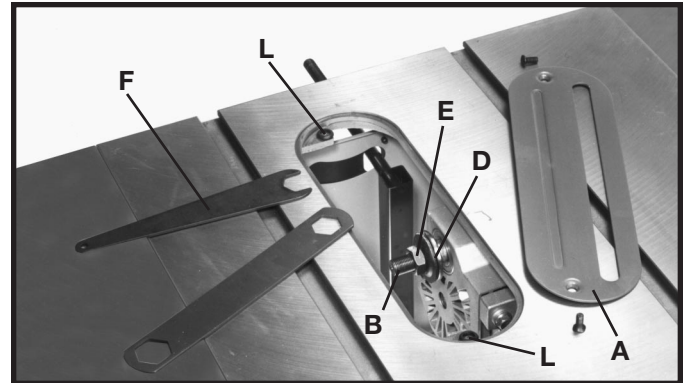
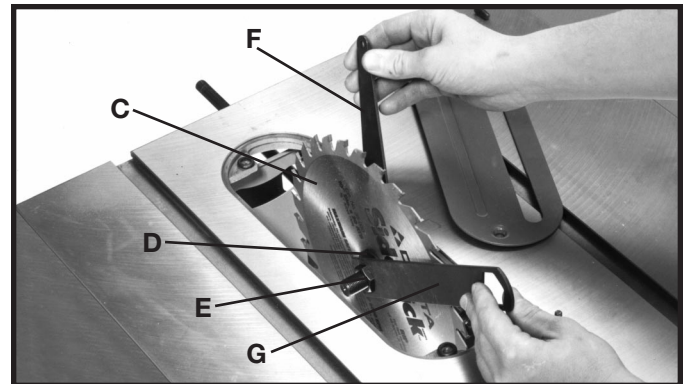

Fig. 11
Fig. 12
2. Loosen two screws and remove the table insert (A) Fig. 11. **IMPORTANT:** Be careful not to lose two rubber washers (L) located under table insert (A).
3. Raise the saw blade arbor (B) Fig. 11, to its maximum height by turning the blade raising handwheel counterclockwise and remove the arbor nut (E) and flange (D) from the saw arbor.
4. Assemble the saw blade (C) to the saw arbor making sure the teeth of the blade point down at the front of the table, as shown in Fig. 12, and assemble the flange (D) and arbor nut (E) to the saw arbor and tighten arbor nut (E) as far as possible by hand, being sure that the saw blade is against the inner blade flange.
5. Using the open end wrench (F) Fig. 11 and Fig. 12, supplied, place the wrench (F) on the flats on the saw arbor to keep the arbor from turning and tighten arbor nut (E) using the remaining wrench (G) Fig. 12, by turning the nut counterclockwise.